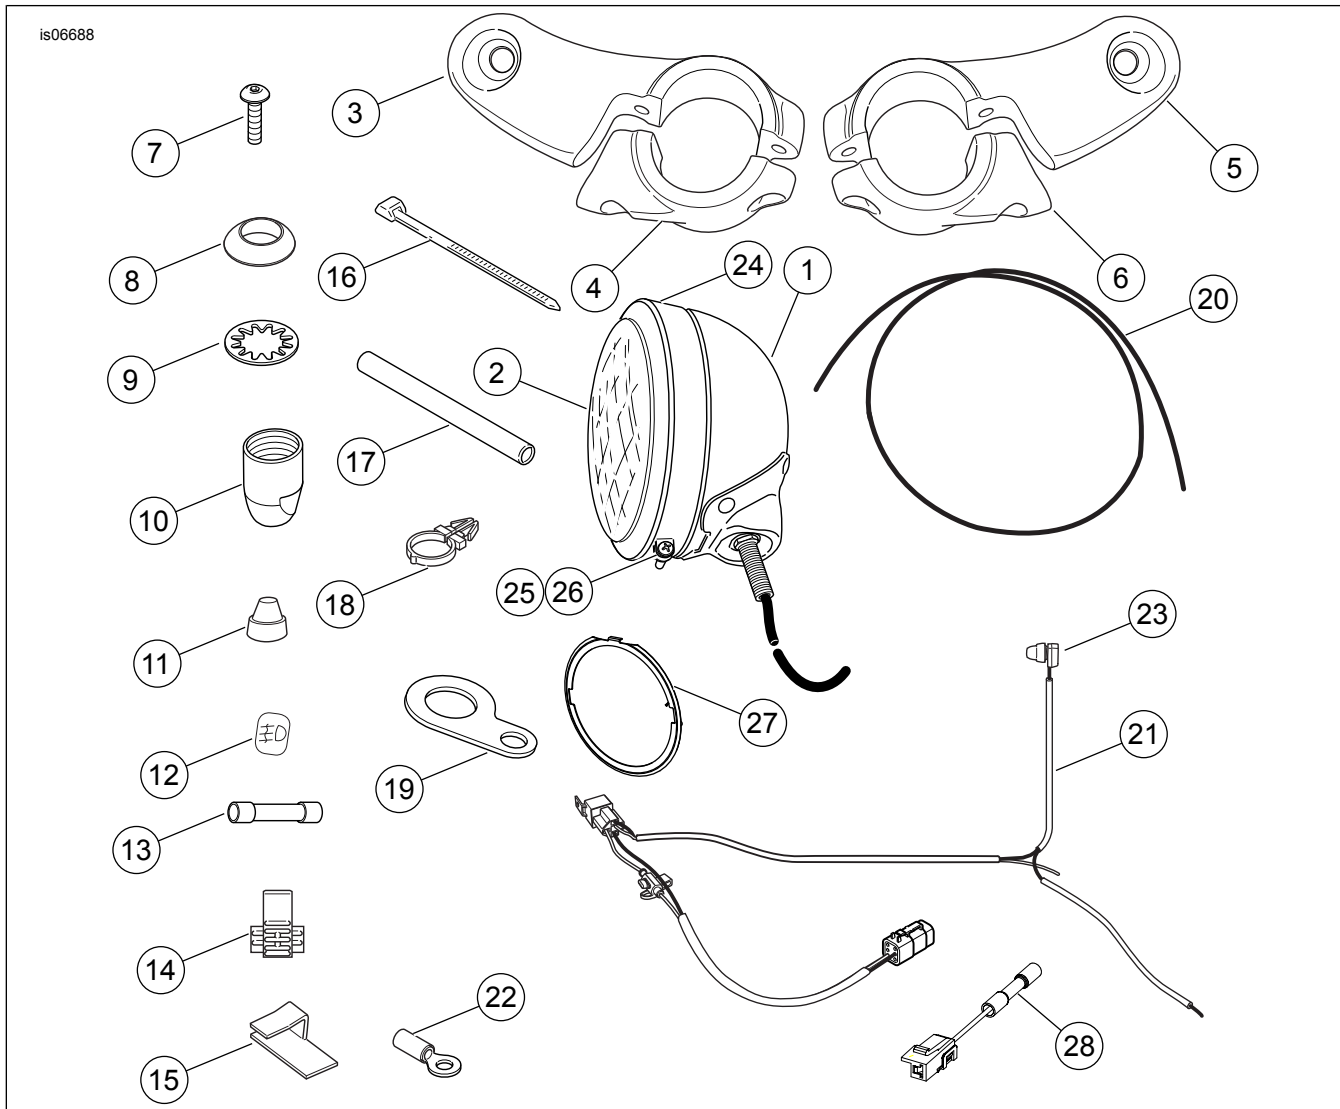

Figure 10. Service Parts: Chrome Auxiliary Lamp Kit
See Figure 10 and Table 1.
6. See Figure 10. Locate the outer trim ring (24), inner nesting ring (27), screw (25), and nut (26).
12. **2011 and later Softail models:** Connect the 6-place Deutsch connector to the 6-place diagnostics/P&A connector on the vehicle harness. **All 2003 and earlier models:** Cut the 6-place connector from the harness. Install a ring terminal from the kit to the white power lead and connect it to the copper stud (BAT) terminal of the main circuit breaker. **All 2004 and later models except 2011 and later Softail models:** Cut the 6-place connector from the harness. Splice the B+ jumper harness (item 28, Figure 10) to the white power lead and connect the jumper to the B+ connector on the harness. See the SEALED SPLICE CONNECTORS section of the service manual.
13. **All models except 2011 and later Softail models:** Install a ring terminal from the kit to the black ground lead of the harness. Connect the black ground wire (2) with the ring terminal to the ground stud under the seat, or at any good electrical ground point. Secure the kit harness to the adjacent harnesses with cable straps (Item 16, Figure 10).
15. See Figure 10. Obtain the switch mounting bracket (Item 19) from the kit. Remove the boot from the lamp switch, and install the switch into the bracket. Replace the boot on the switch.
If the boot becomes worn or damaged, or is lost, replace the boot to prevent moisture from entering the switch. See Figure 10 (item 11).
17. See Figure 10. Secure the lamp switch leg of the harness to the handlebar using the wire harness retainers (Item 18) as needed. Snap the retainers into the holes in the handlebar.
- See Figure 10. Secure the wires to the lower fork steering bracket using the adhesive-backed clips (15) from the kit.